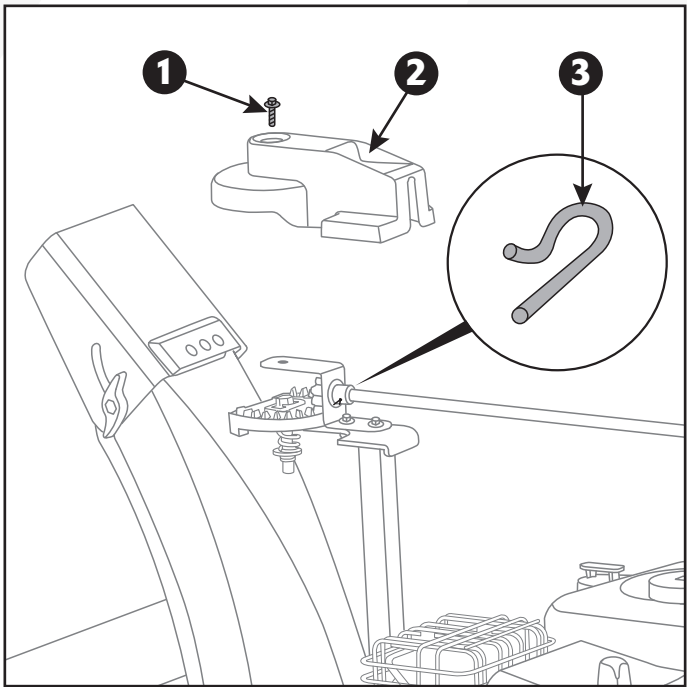

Fig. 5C
5. Insert the discharge chute rotation lever into the hole of the gear and secure with R pin. (Fig. 5C)
6. Mount the cover and secure with a screw. (Fig. 5C)